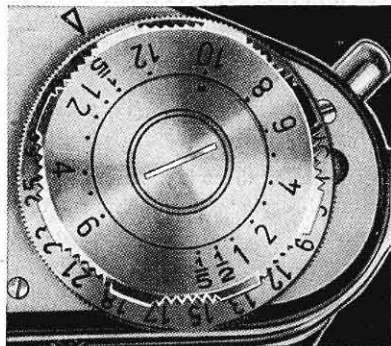

Fig. 12
These two settings (B and T) are used for long time exposures over 12 seconds, because the time setting work of the EXAKTA VX allows for exposure times up to 12 seconds (see below!). Longer exposure times than 12 sec. are controlled by counting the seconds or with a watch. In this case you must definitely use a tripod (camera retaining screw [42] on camera base) or place the camera on a stable support (table, wall, etc.), whereas fast exposures of  $1/25$  down to  $1/1000$  sec. are possible as "hand-held" shots. With the slow speed knob (17) it is possible to set exposure times longer than  $1/25$  sec. (17) (Fig. 12). The fractions of seconds (e. g.  $1/5$  sec.) are indicated on the slow speed knob (17) as fractional numbers, while all the whole numbers mean full seconds (e. g. 1 = 1 sec., 2 = 2 sec. etc.). The black figures are for exposures immediately after releasing. The red marks, however, indicate that the shutter opens about 13 seconds after releasing, the self-timer permitting yourself to step in the picture. In other words, the photographer operating the camera can take a picture of himself. The time regulation mechanism and the self-timer of the EXAKTA VX Ila function practically free from noise and must be operated strictly as follows:
- a) Set the fast speed knob (8) on T or B.
- b) Before handling the slow speed knob (17) cock the shutter, by swinging around the film transport lever (6) as far as it will go. Then firmly turn the slow speed knob (17) clockwise as far as it will go, in this way winding the time regulation